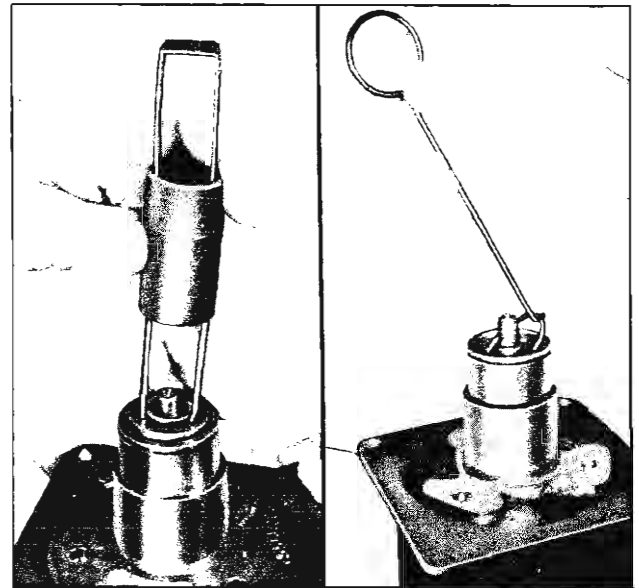

Fig. 34—Removing Seal Seat and “O” Ring
3. Using Tool J-9393 (1 and 2), grasp the flange on the seal seat and lift out the seal seat (fig. 34).
5. Remove the seal seat “O” ring from the housing bore using Tool J-9553 (fig. 34).